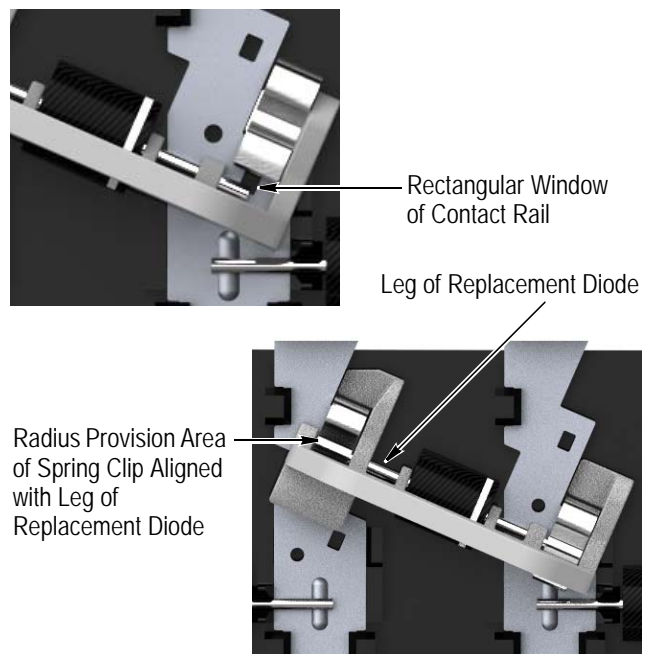

Figure 8
4. Using the flat side of the blade of a screwdriver, slide the spring clip over the contact rail and onto the leg of the replacement diode. See Figure 8, Detail A. Proper seating is achieved when the leg is captured in the radius provision area of the spring clip (shown in the Detail A) and the lance of the spring clip is sitting in the rectangular window of the contact rail. See Figure 8, Detail B.